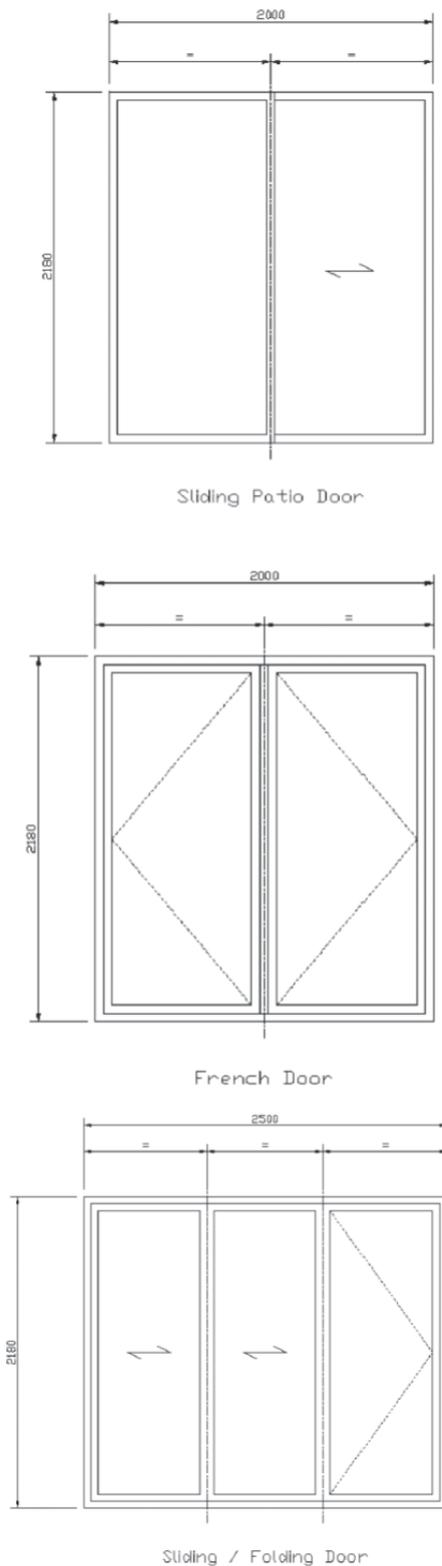

Figure 5: Standard door configurations and sizes for Doorset Energy Rating Calculations
- U_{door} is the door U-value for the standard size and configuration door as calculated according to BS EN ISO 10077 Parts 1+2. The size and configurations of the standard doors used for rating are shown in Figure 5.
- Alternatively, if hotbox test results according to BS EN ISO 12567-1 are available for the standard doors shown in Figure 5 these results may be used for U_{door} in place of calculated results